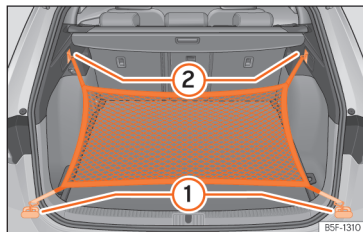

Fig. 190 In the luggage compartment: rings ① and hooks ② for attaching the net bag.
- Secure the short net hooks to the fastening rings »» Fig. 190 ① »» ⚠. The bag zip should be facing upwards.
- Secure the straps in the bag hooks ②.